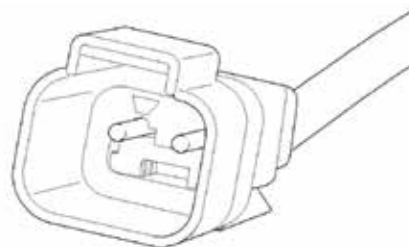

Figure 5-23. Element Plug End
2. Use an ohm meter and test the resistance through the element between the two pins in the plug at the end of the element cable (**Figure 5-23**).